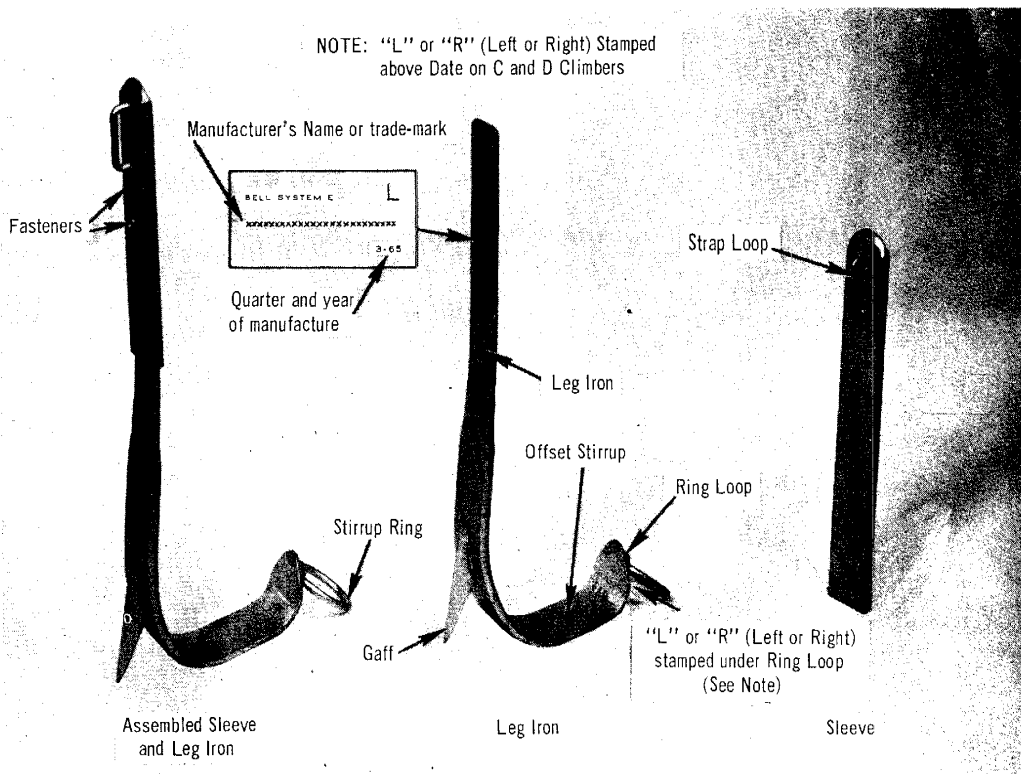
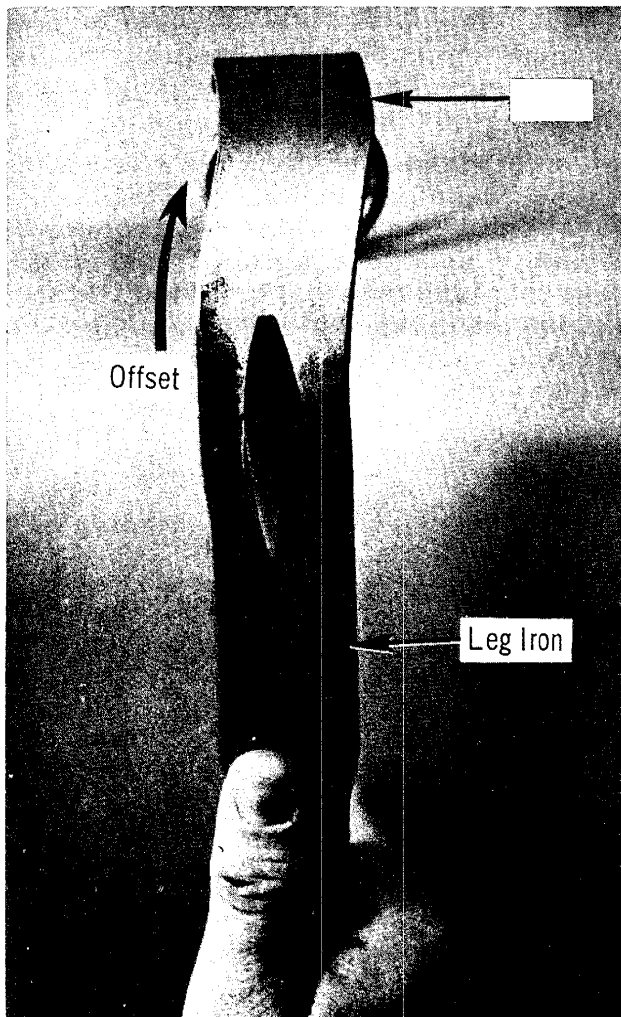

Fig. 1 - E Climber
Fig. 2 — Stirrup Offset "Right"
superseded by the D Climber in which the stirrup was widened 1/4 inch to give more room for overshoes and the gaff raised 1/8 inch for better ground clearance when stepping off a pole. The E Climber, Fig. 1, which supersedes the D
**2.02** Adjustable climbers have offset stirrups, therefore, they are made for the right and left foot and are marked "R" or "L" on the appropriate climber as indicated in Fig. 1. These climbers can be identified as right or left by remembering that the offset of the stirrup is toward the front of foot. Another method is to hold the climber with gaff toward you and pointing up, then noting which direction the stirrup is offset. If the offset is to right, it is a right climber as in Fig. 2; if the offset is to left, it is a left climber.